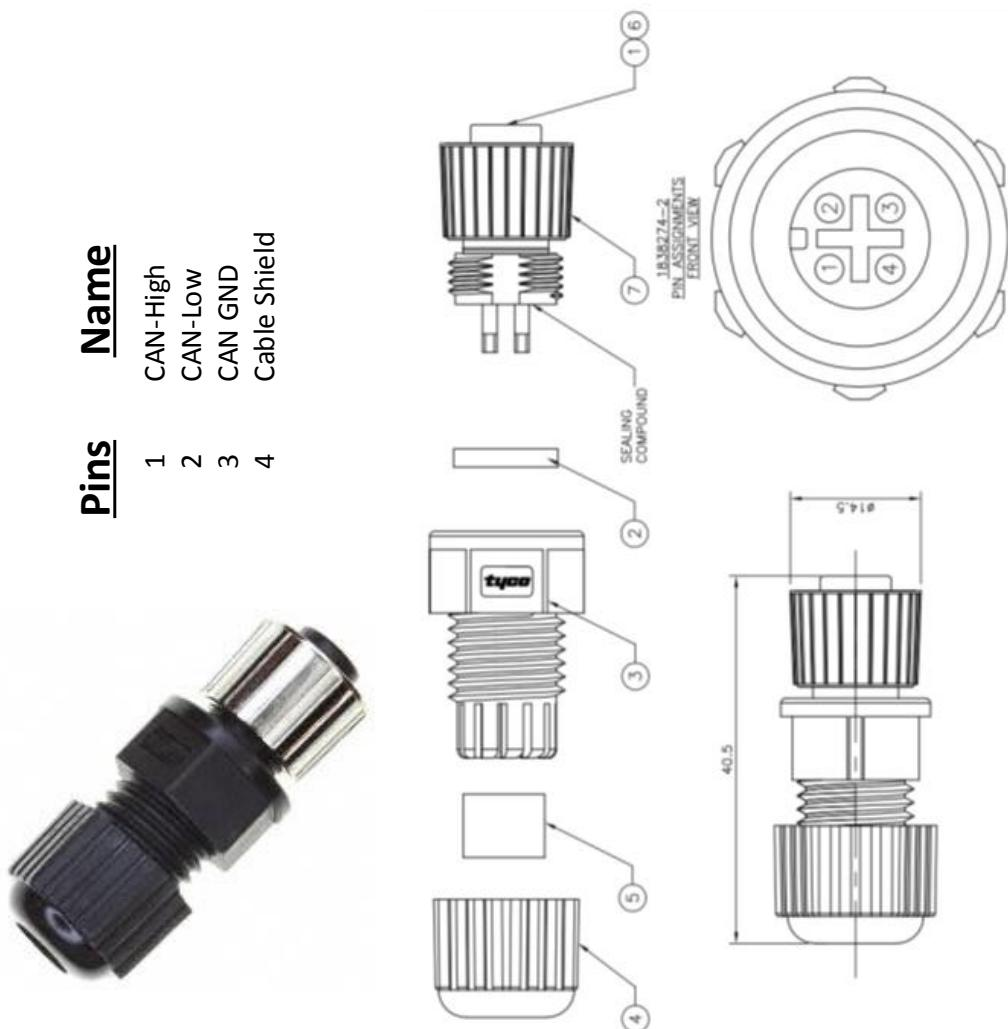

Figure 3.33: SCANF(SH): Shielded Special CAN Industrial Connector (Female)
- Picture and pinout: see figure 3.33